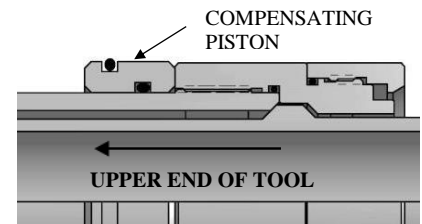

Fig. 3
K-3.3) Install compensating piston (9) onto compensating mandrel (8) (Fig. 3).
NOTE₁₁: Compensating piston **MUST** be installed in correct direction (Fig. 3).